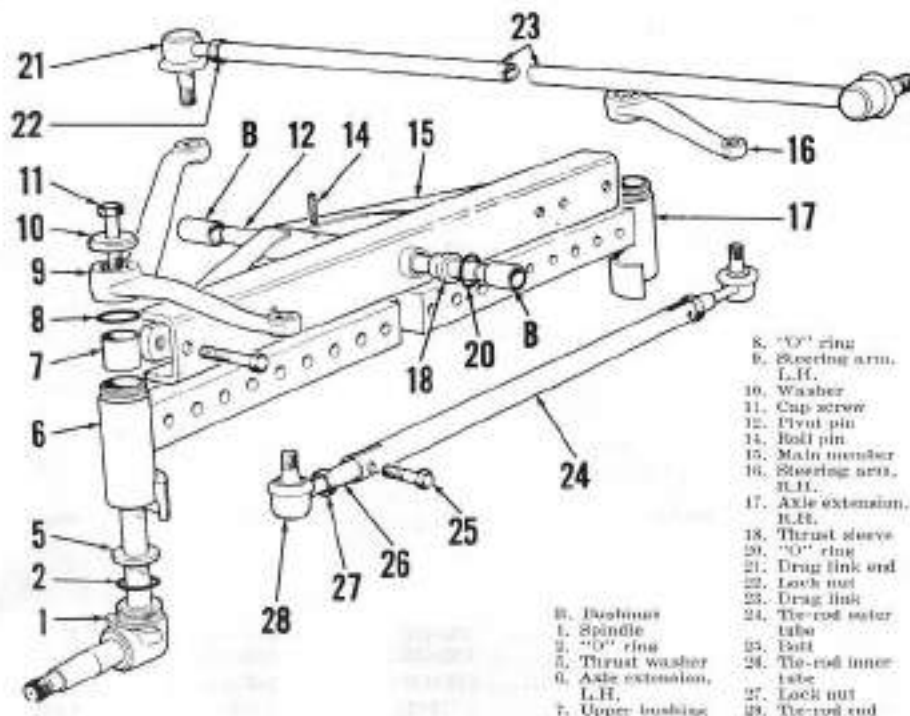
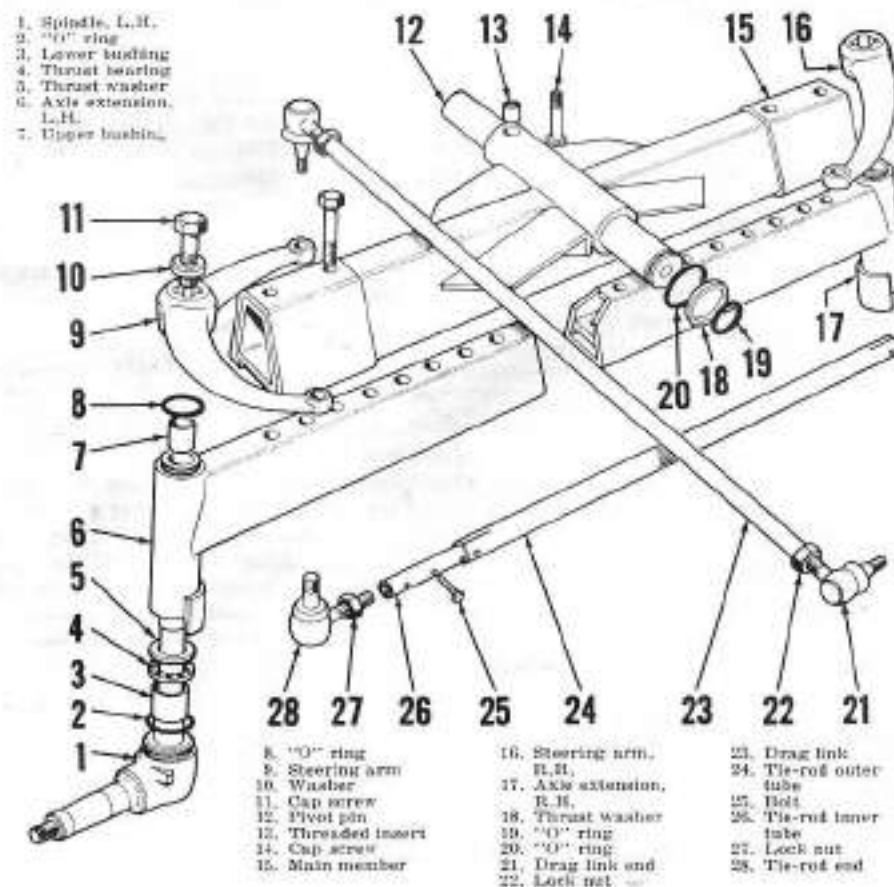

Fig. 2—Exploded view of model 770 front axle. Pivot pin bushings (8) are carried in main frame and front support casting.
Fig. 3—Exploded view of model 1200 front axle. Models 880 and 990 (except model 990 heavy duty axle) are similar.
2. R&R SPINDLES. To remove front spindle (1—Fig. 2 or 3), support front of tractor and remove wheel, cap screw (11) and washer (10); then pull steering arm (9) from spindle. Withdraw spindle and remove "O" ring (2) and thrust washer (5); on model 1200, also remove thrust bearing (4—Fig. 3). On all models, remove "O" ring (8—Fig. 2 or 3). Reinstall by reversing removal procedure and tighten steering arm retaining cap screw to a torque of 120 Ft.-Lbs.
3. SPINDLE BUSHINGS. After removing spindle, remove bushing (3 and 7—Fig. 2 or 3) using suitable drift
4. Refer to Fig. 2 or Fig. 3. Toe-in of front wheels should be 1/16 to 1/4 inch and can be adjusted by lengthening or shortening the tie-rod.
6. To renew the axle center member, support front of tractor and remove the axle extensions and front wheel units. Remove the spring pin (14—Fig. 2). Remove expansion plug from front support casting and remove pivot pin with slide hammer threaded into front end of pin.
Remove cap screw (14—Fig. 3 or 4) and using slide hammer, withdraw pivot pin rearward from front support and axle center member. Raise front support with hoist until it clears axle assembly and remove the two thrust washer sleeves and the three sealing "O" rings.
On models with fabricated (welded) front axle assembly, axle front to rear float in front support should be 0.002-0.014. Renew the pivot thrust washers (18—Fig. 3) if front to rear float is excessive.